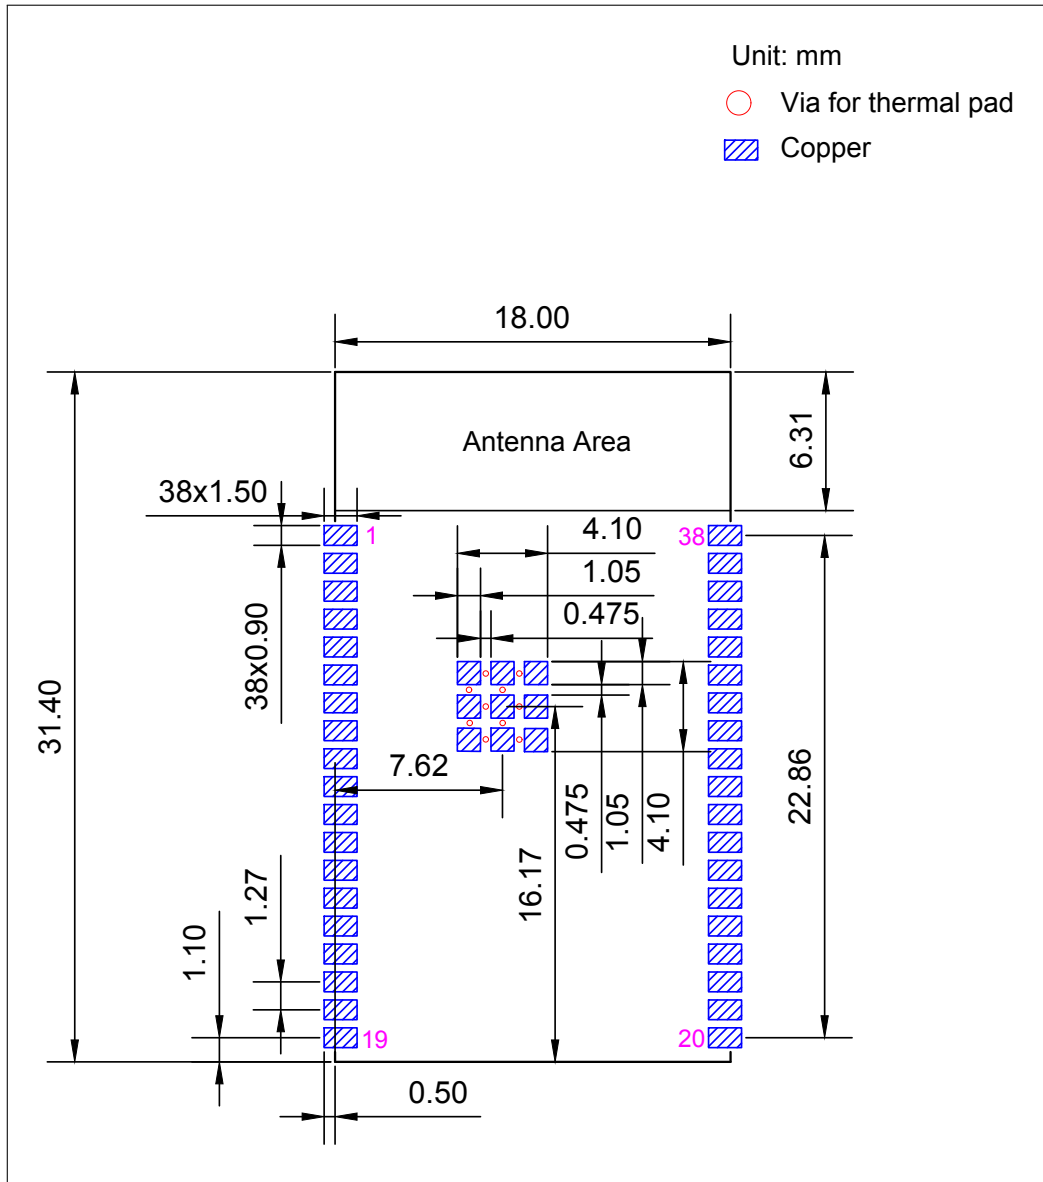

Figure 6: Recommended PCB Land Pattern of ESP32-WROVER
- Figures for recommended PCB land patterns with all the dimensions needed for PCB design. See Figure 6 *Recommended PCB Land Pattern of ESP32-WROVER*.
- Source files of recommended PCB land patterns to measure dimensions not covered in Figure 6. You can view the source files for ESP32-WROVER with Autodesk Viewer.